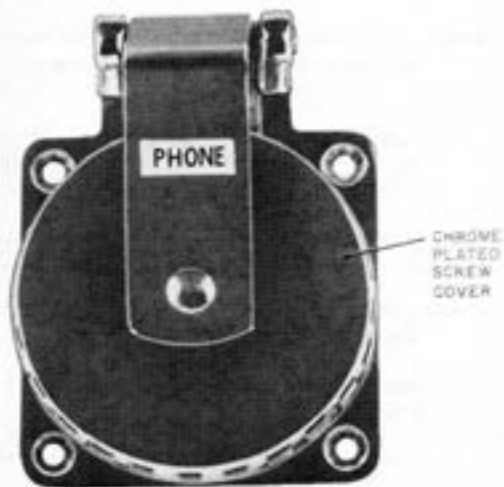

Fig. 47—B Waterproof Male Jack (Front View)
5.10 The B waterproof male jack (Fig. 47 and 48) is mounted on a boat using mounting holes provided by the customer. The customer will use the B template to locate the pilot holes for mounting screws and clearance hole for the jack body for the B waterproof male jack. The jack is chrome plated with a hinged, threaded cover which makes the jack waterproof when not in use. Three screw terminals, stamped T, R, and GR, on the rear of the jack provide connection for ring, tip, and ground. Wire the tip and ring of the jack to tip and ring terminals of connecting block on boat.